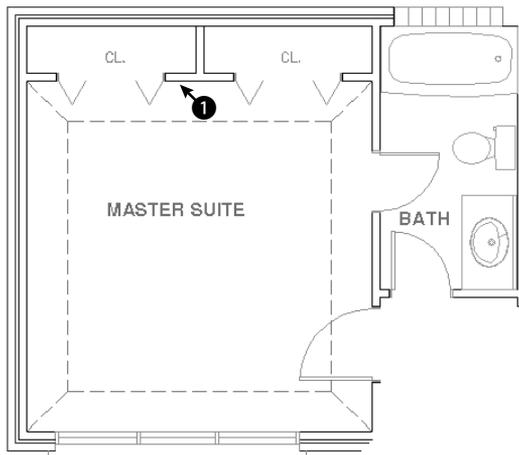

Figure 11-31: The master-bedroom-suite plan.
2. Save the file as `ab11-06.dwg` in your AutoCAD Bible folder. This is a drawing of a master-bedroom-suite plan, as shown in Figure 11-31.
3.  Pick the wall at ❶ in Figure 11-31. Click Match Properties from the Standard toolbar. At the Select destination object(s) or [Settings]: prompt, use a crossing window to select all the folding closet doors on both sides of the line you just selected. Press Enter to end object selection. This action matches the properties of the doors to the properties of the wall. (The doors turn from gray to black/white.)